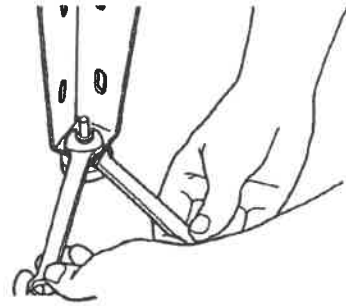

Fig. A-5
10. Thread a second hex nut (48) on the foot's bolt.
13. Level all four feet (49) by adjusting the hex nuts (48). Securely tighten all hex nuts (48) with two 9/16" wrenches. See Fig. A-5.